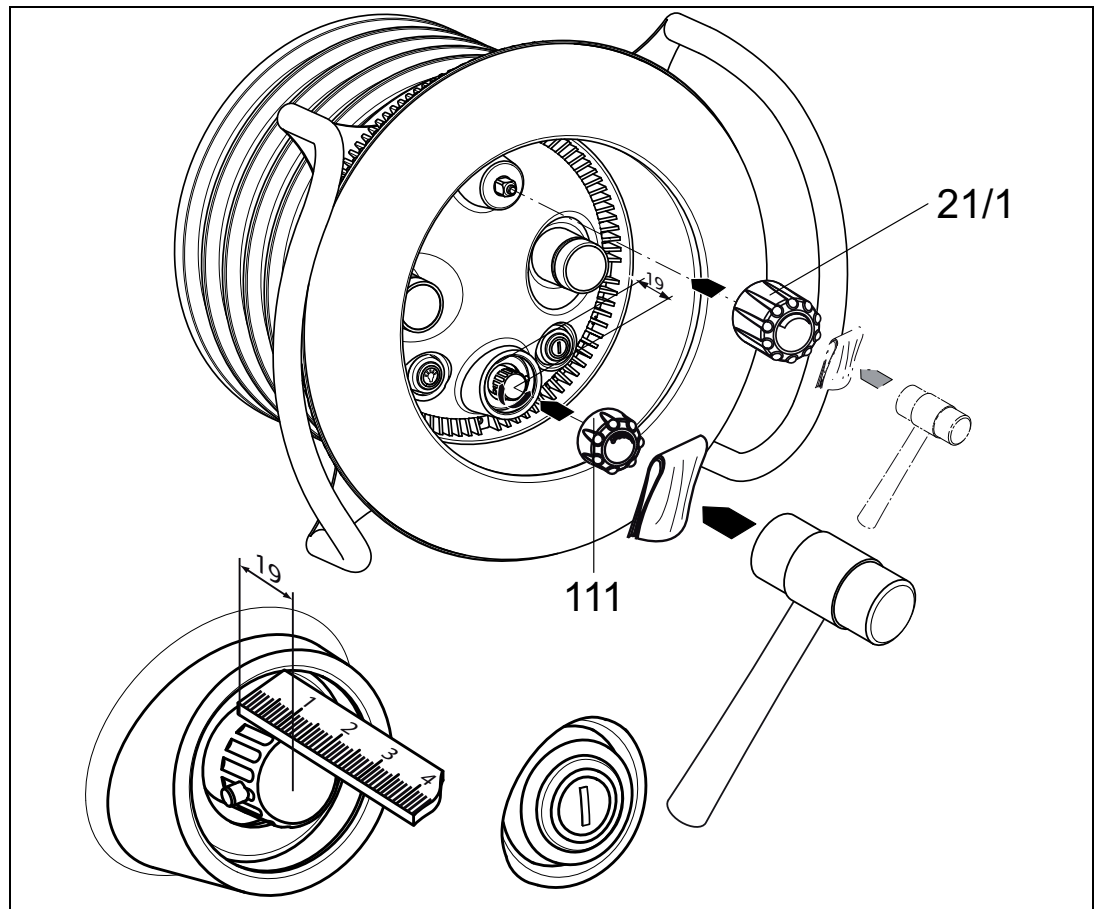

Fig. 13
12. Mount the cap for the volume **(21/1)** and air regulator **(111)** by means of a rubber mallet and a protective cloth *(Fig. 13)*.